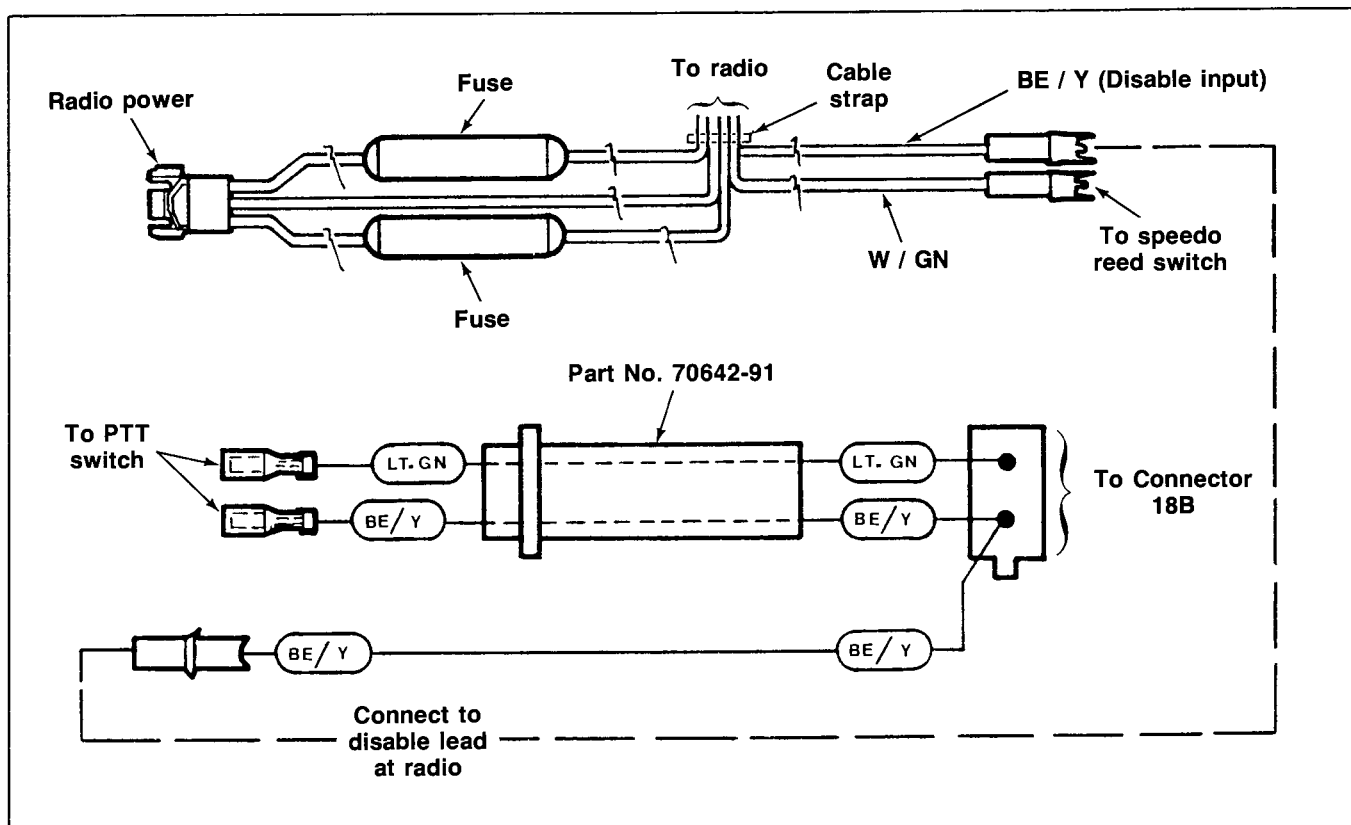

Figure 7. Electrical Connection of Disable Circuit on FLHTC-Ultra
- See Figures 7 and 8 (on page 4 of 4). A circuit that disables the radio amplifier during CB transmission has been added. Disabling the amplifier eliminates the squealing noise at the fairing speakers, which is caused by feedback. The amplifier disabling circuit may be installed on any 1991 FLTC / FLHTC Ultra model.